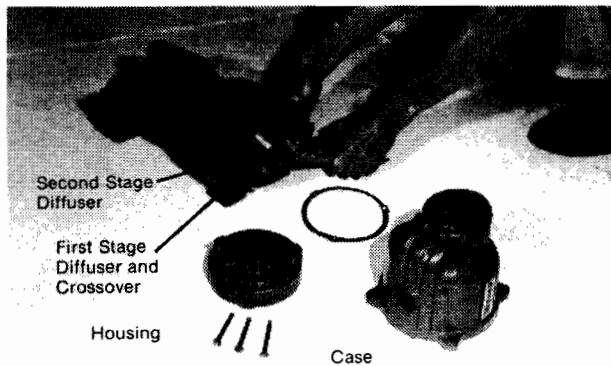

Figure 13
7. Hold pump shaft and unscrew second impeller. Use pliers, if necessary. File any plier cuts smooth on impeller eye surface. (RIGHT HAND THREAD—CCW FACING IMPELLER TO REMOVE). (See Fig. 13).